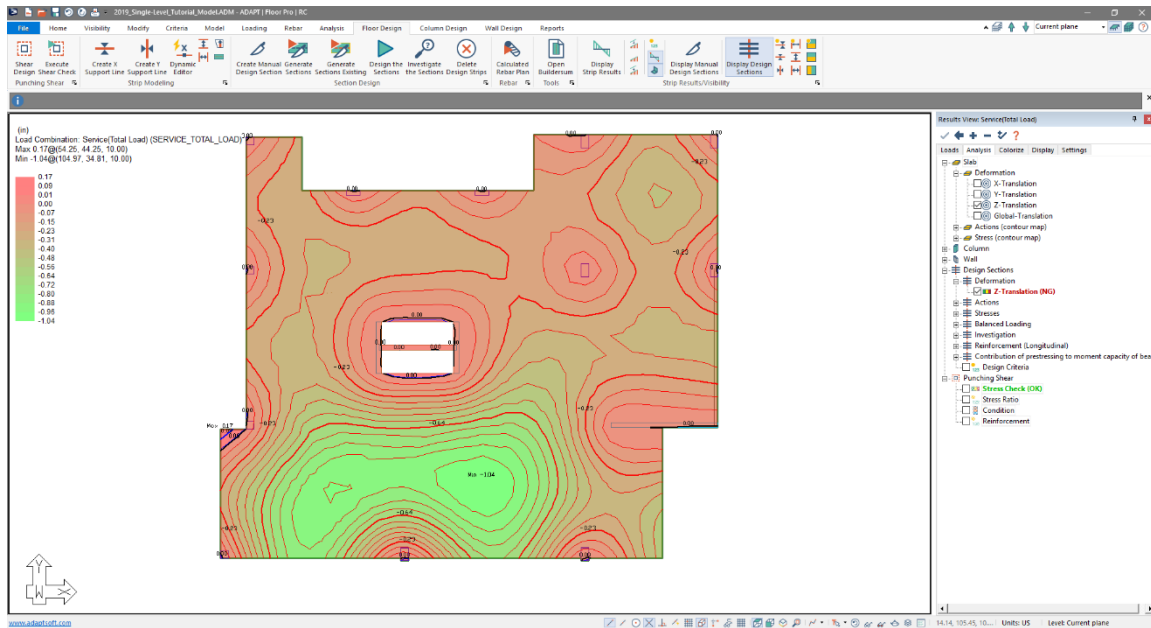

Figure 7-15
- In the *Analysis* tab tree, navigate to *Slab* → *Deformation* → *Z-Translation* and check the box next to *Z-translation*. The user should now see the contour deflection results as shown in **FIGURE 7-15**.